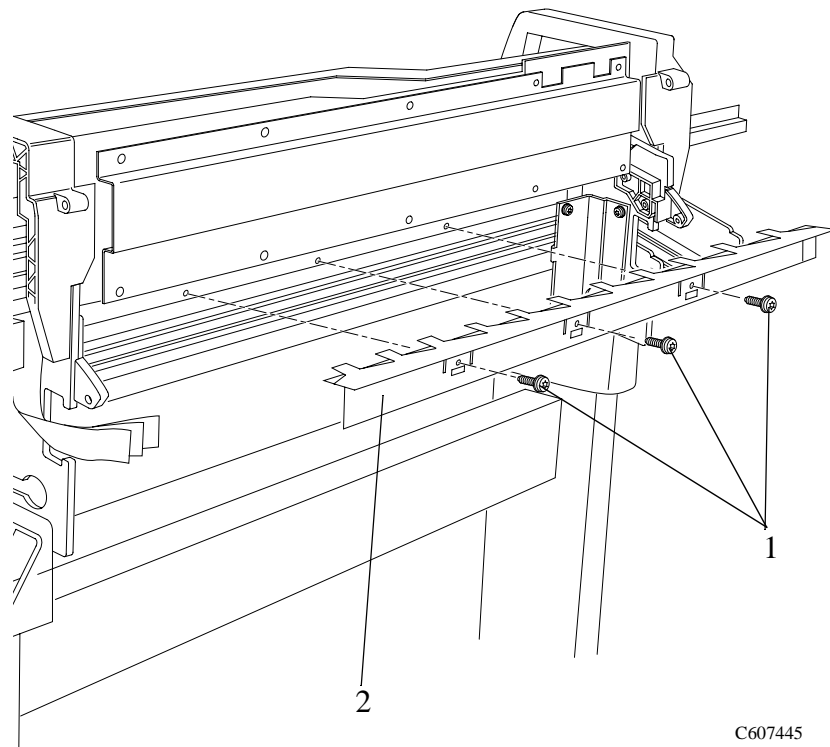

Figure 76: Media Holder Strip
Refer to Figure 76.
2. Remove the three T-15 screws (item 1) securing the Media Holder Strip (item 2) to the Roller Guide (refer to Figure 76)